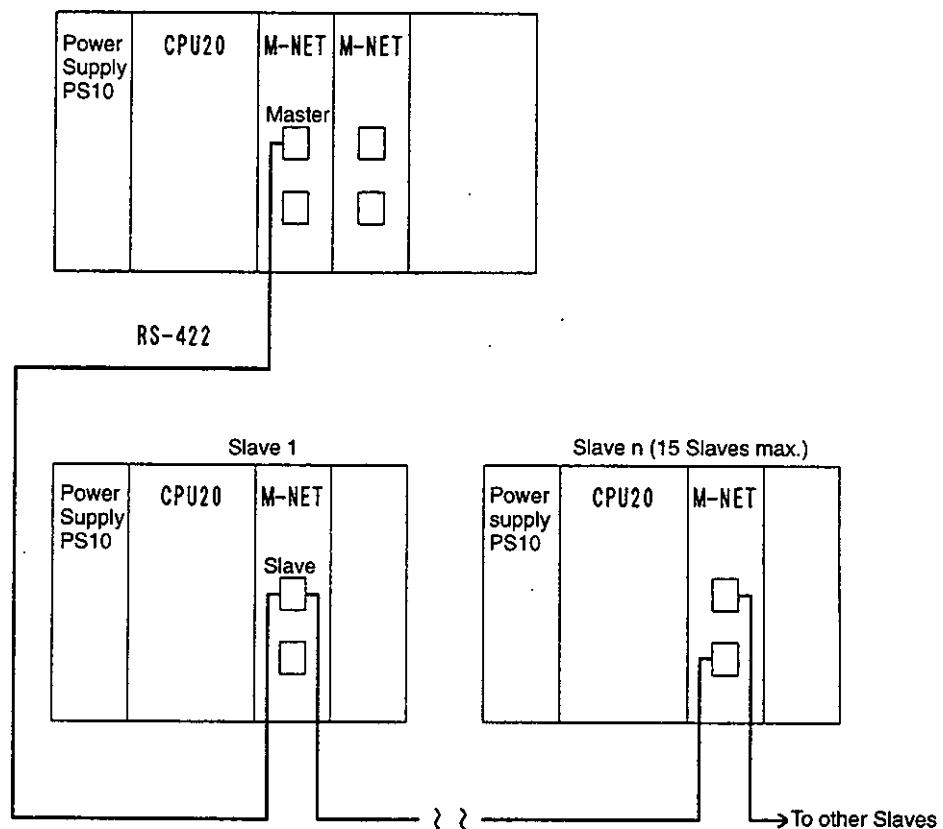

Figure 1.1 M-NET System Configuration
- 1) The M-NET system configuration is shown in *Figure 1.1*.